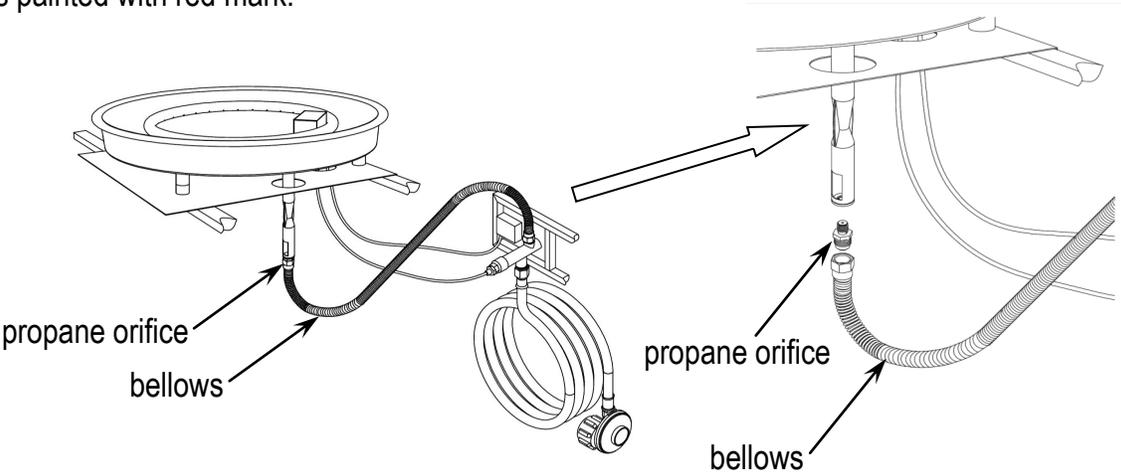

Figure 13
2. Unscrew and disconnect the propane orifice from the bellows (see Figure 13). Propane orifice (dia2.09mm size) is painted with red mark.